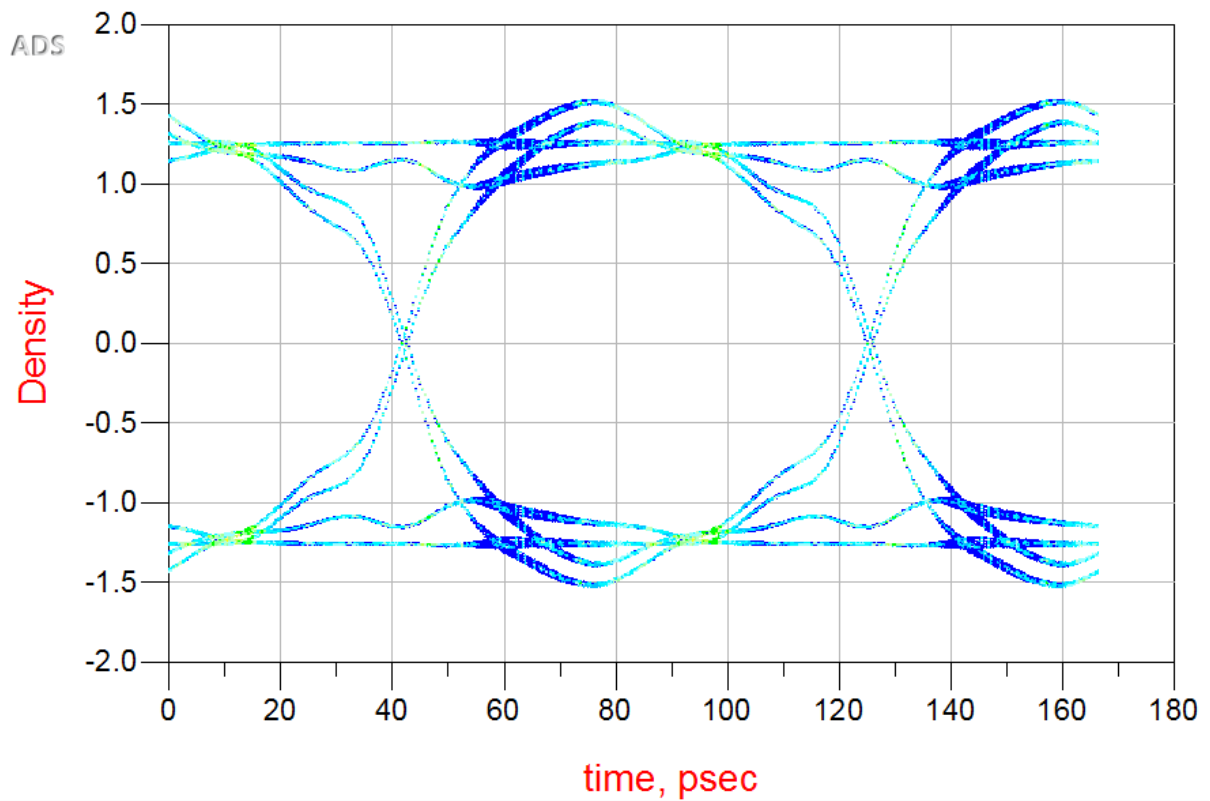

Figure 2. Eye Diagram of ADS (corner=2, Vreg=2, and emaphasis = 0)
4. In the popup after simulation, insert rectangular plot from palette panel and link density measurement to view the eye diagram. Refer Figure 2.